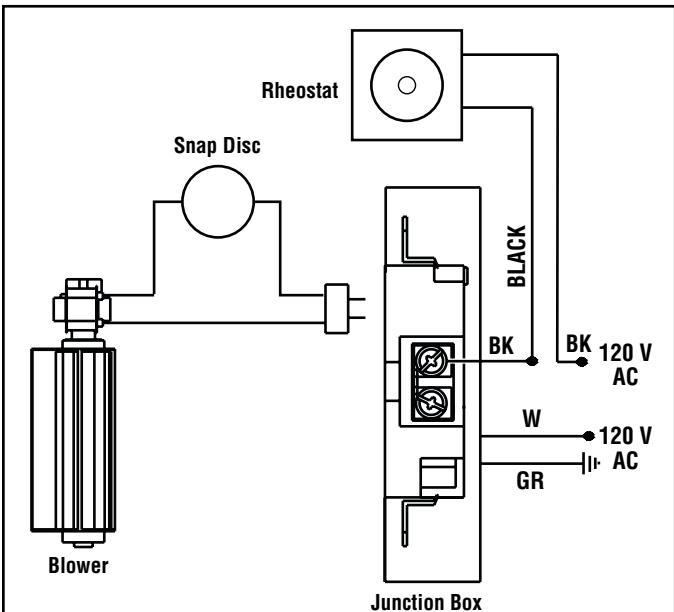

Figure 18 - Junction Box Wiring, 120 VAC, 60 Hz, 1 Phase
If you wish to adjust the blower speed, the variable speed control (VRUW) provided must be installed in line with the wiring (**Figure 18**). Again, use a qualified electrician for installation.
4. Connect the black power supply wire and the power outlet black lead wire together. Connect the white power supply wire and the power outlet white lead wire together (**Figure 18**).
5. Connect the ground supply wire to the green lead wire attached to the outlet's green ground screw (**Figure 18**). Restrain the inlet power lead per NEC or local codes.